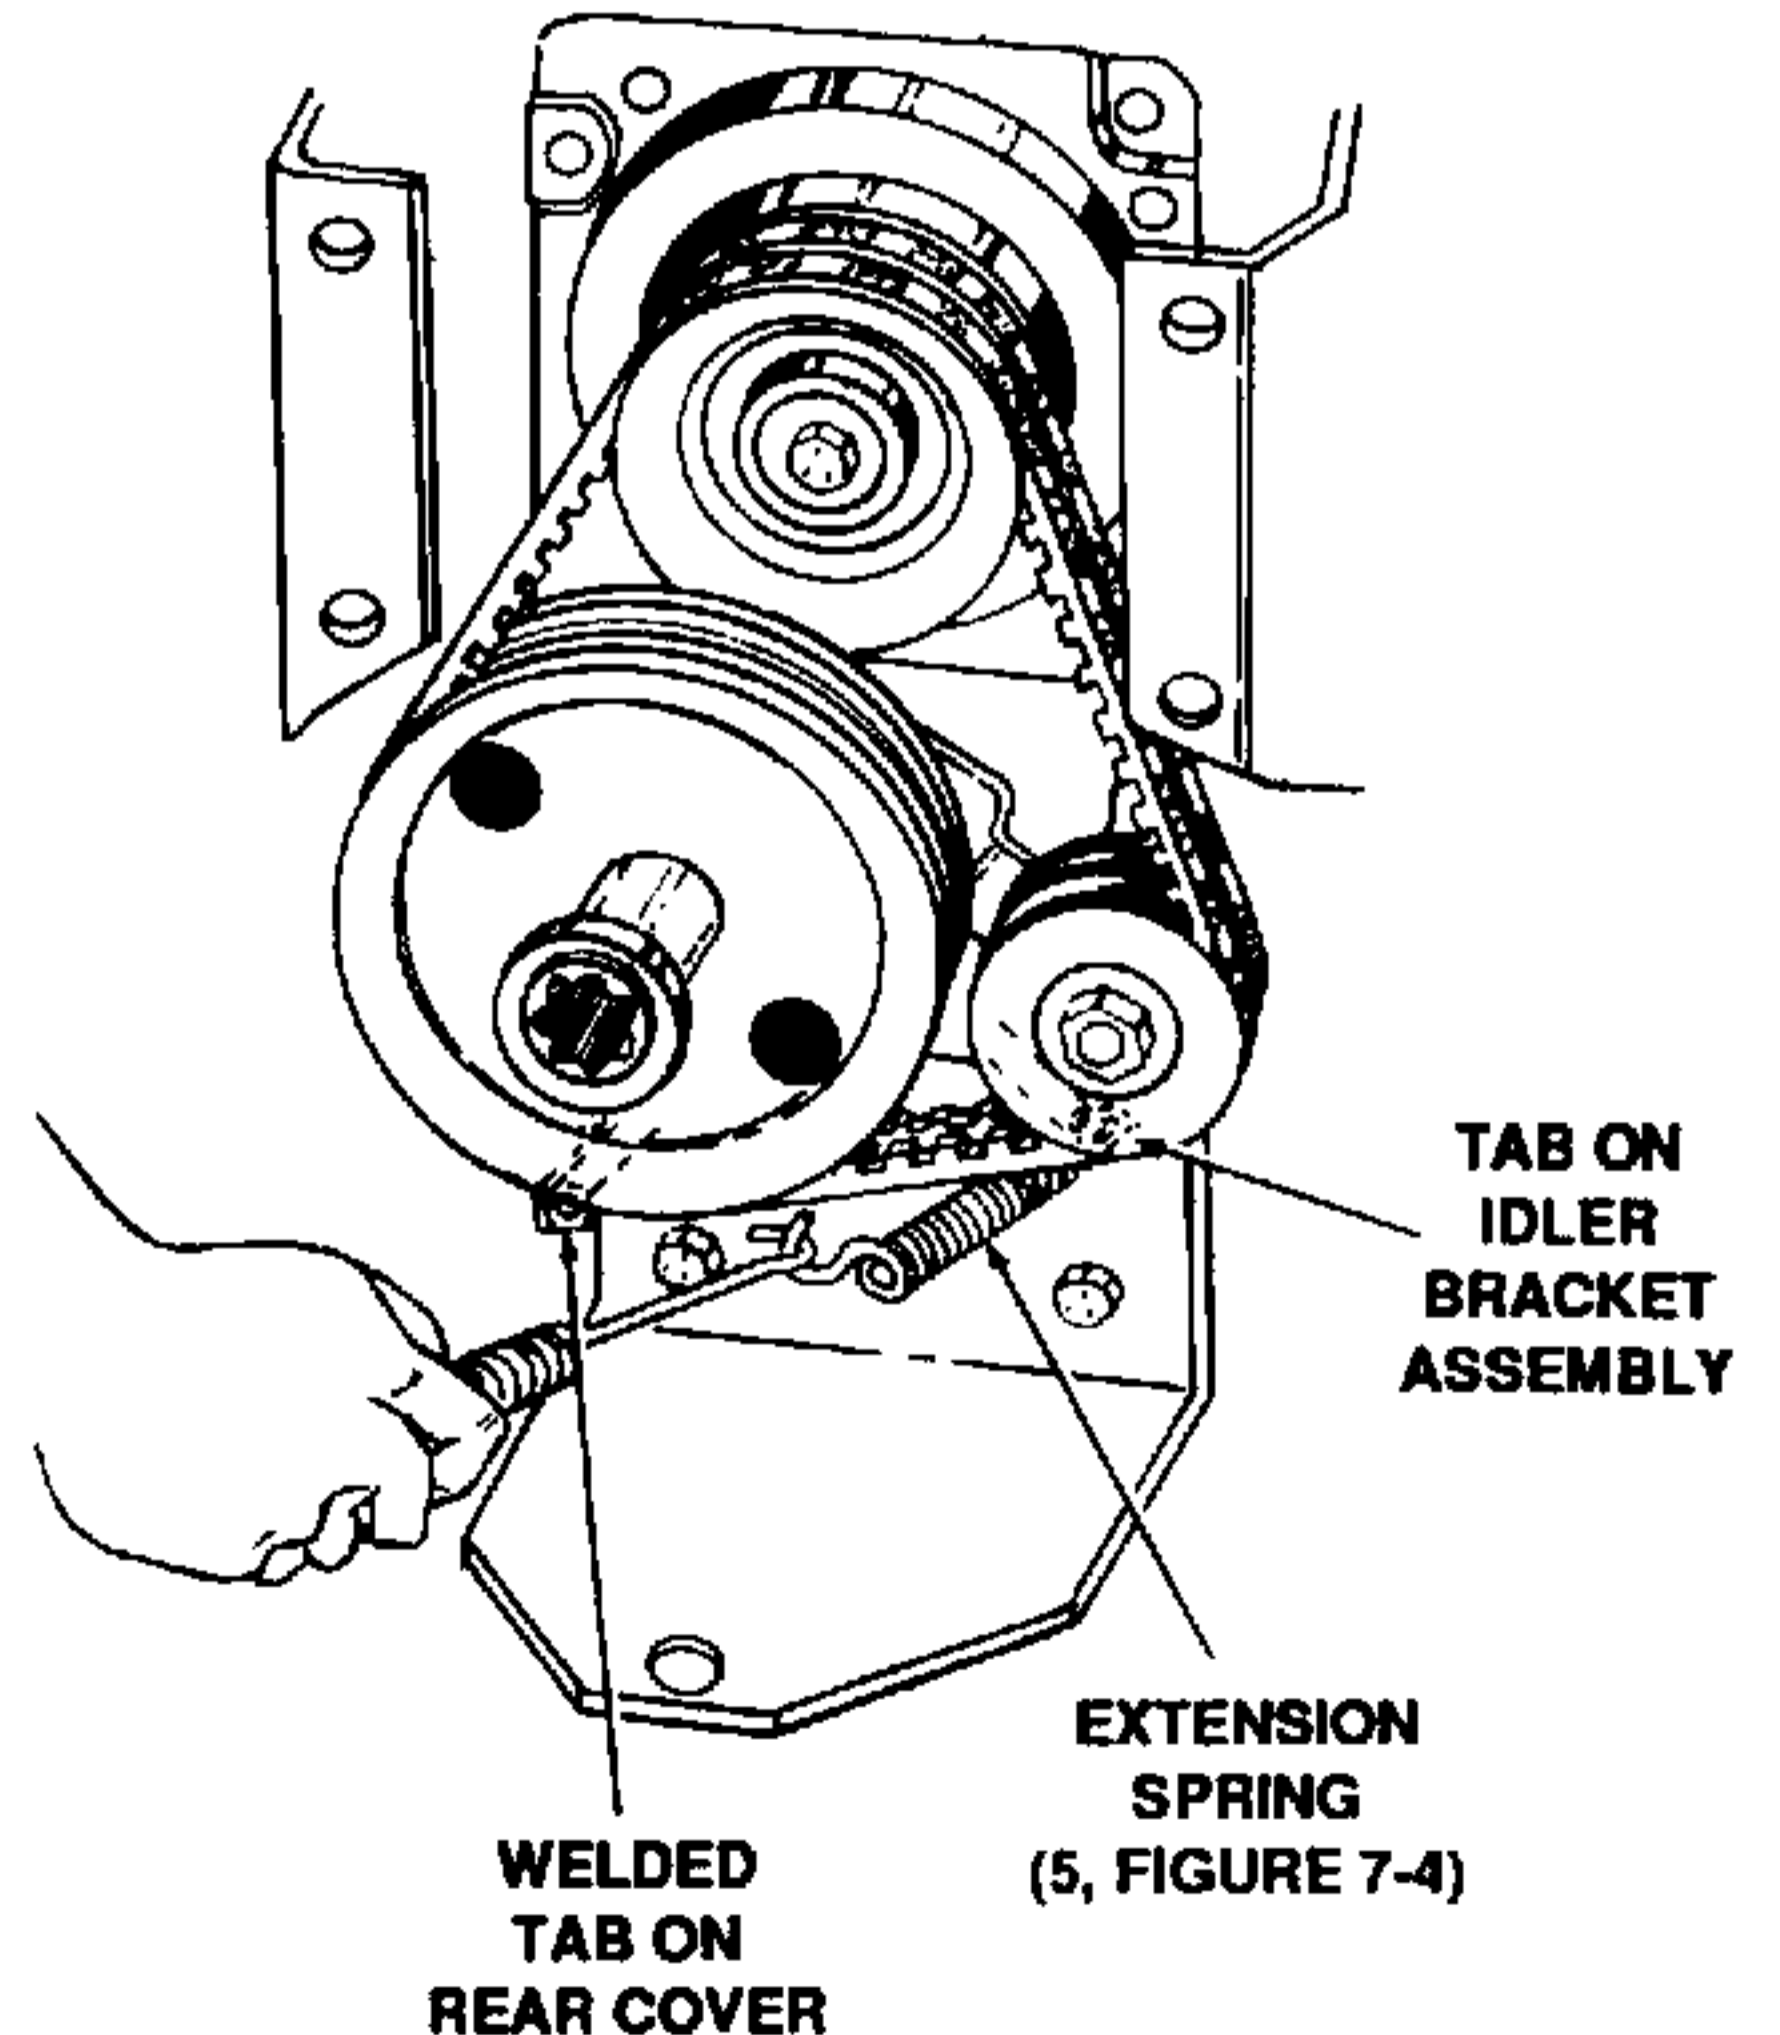

Figure 7-25. Installing Extension Spring.
- Use a suitable tool to hook other end of spring to tab on rear cover plate. Refer to Figure 7-25.